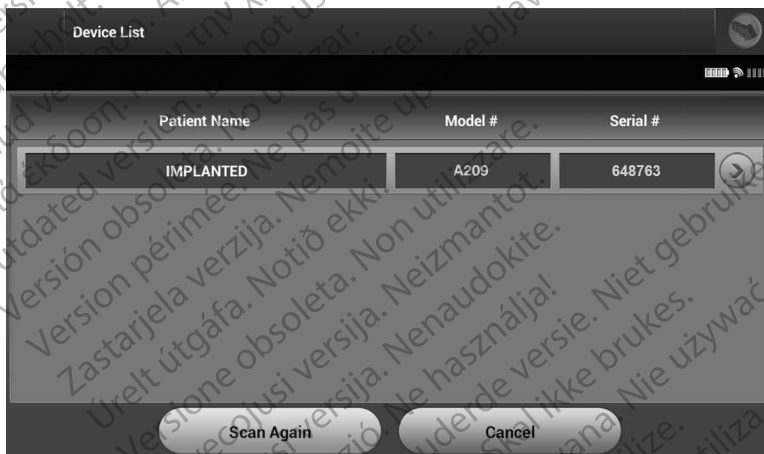

Figure 7: Device List screen (scrollable list)
2. When the scanning process is complete, a list of all pulse generators detected (up to 16) will be displayed on the Device List screen (Figure 7). The devices that are in Shelf mode will be displayed as “Not Implanted.” Any devices that were previously taken out of Shelf mode are displayed either as “Implanted” or with the stored patient name.
Select the desired pulse generator from the Device List screen (Figure 7) to initiate the communication session.